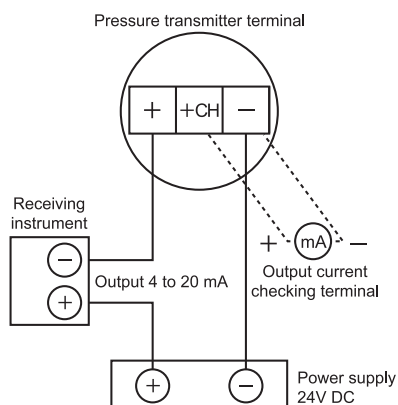

Figure 9 Wiring diagram
- For the wiring method, refer to Figure 9.